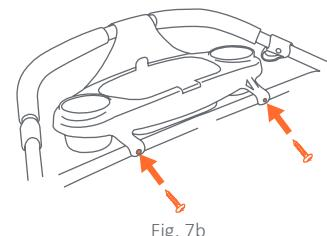

Fig. 7b
• Attach the lower portion of the parent tray to the cross tube, with the screws provided (Fig. 7b).